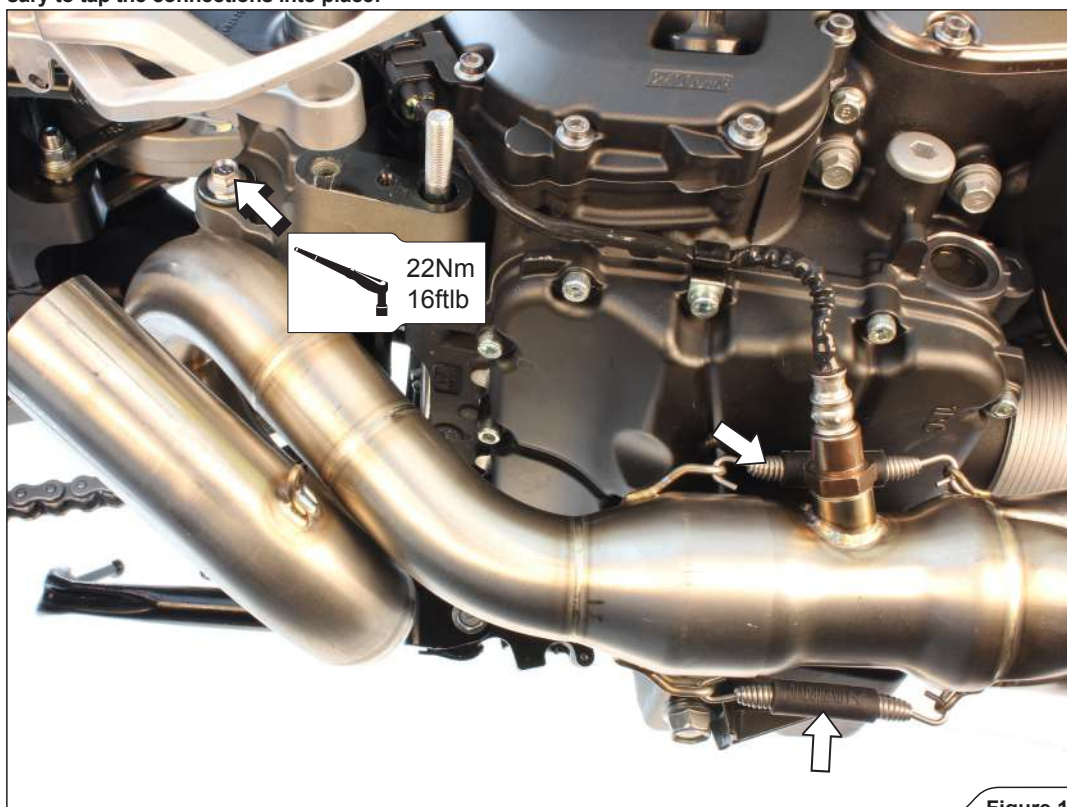

Figure 10
3. Slide the link pipe onto the headers, attach the springs and tighten the bracket onto the frame, using stock bolt (Figure 10).